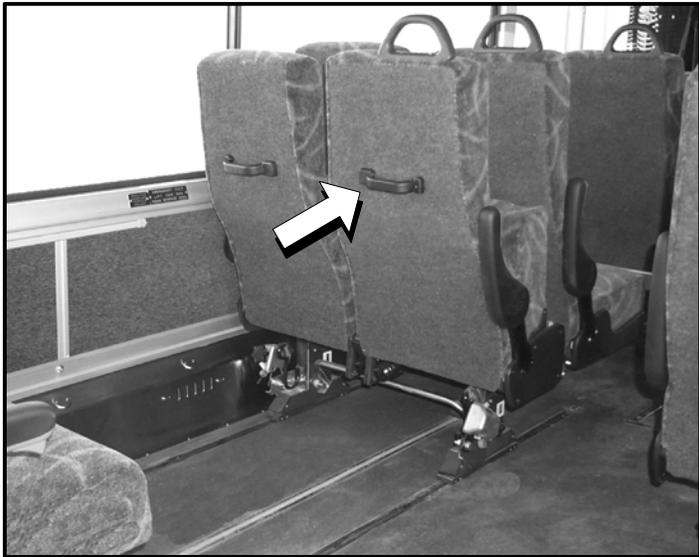

FIGURE 98
- Slide seat, using the handles on back of seat, until floor pedal automatically engages stowed lock down point in floor track (Figure 98),